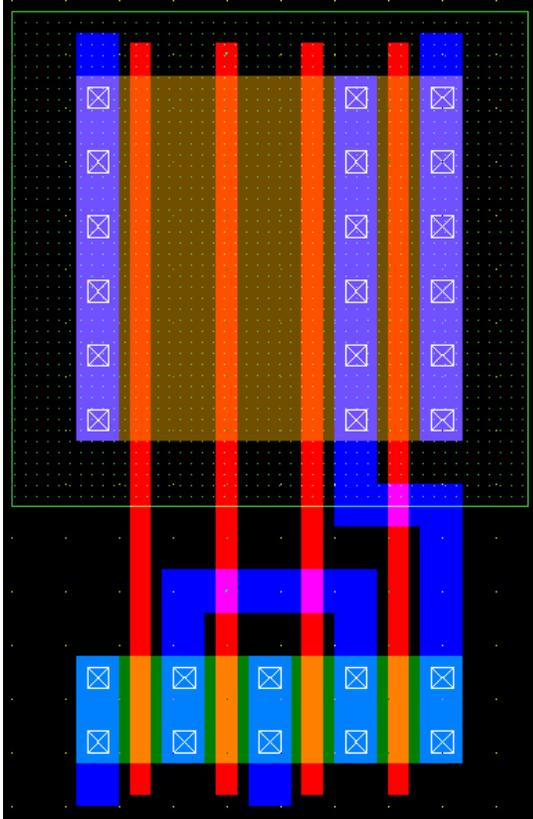

Figure 6
Align them using “Stretch, Move” button, if necessary. Run DRC. Then join the polysilicon of PUN and PDN. The shorted polysilicon fingers will be the inputs (A, B, C, D). Now remove metal & contact from the middle of A & B pMOS, since A & B pMOS of PUN are in series. Similarly, remove metal & contact from the middle of B & C pMOS, since they are in series too. Then form the output (Y) terminal using Metal1 by joining drain of D nMOS (of PDN) with shorted drain of C & D pMOS (of PUN). The layout will look like Fig. 6 below.